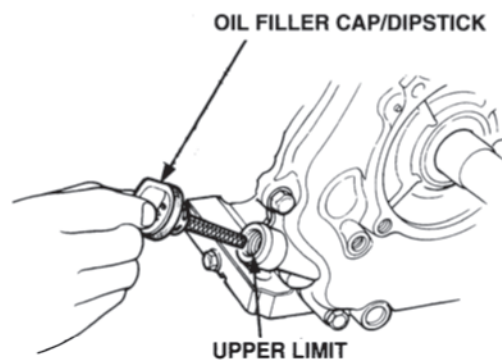

FIGURE-7
6.2.8 When oil reaches the upper limit, install the oil filler dipstick/cap (Figure-7).